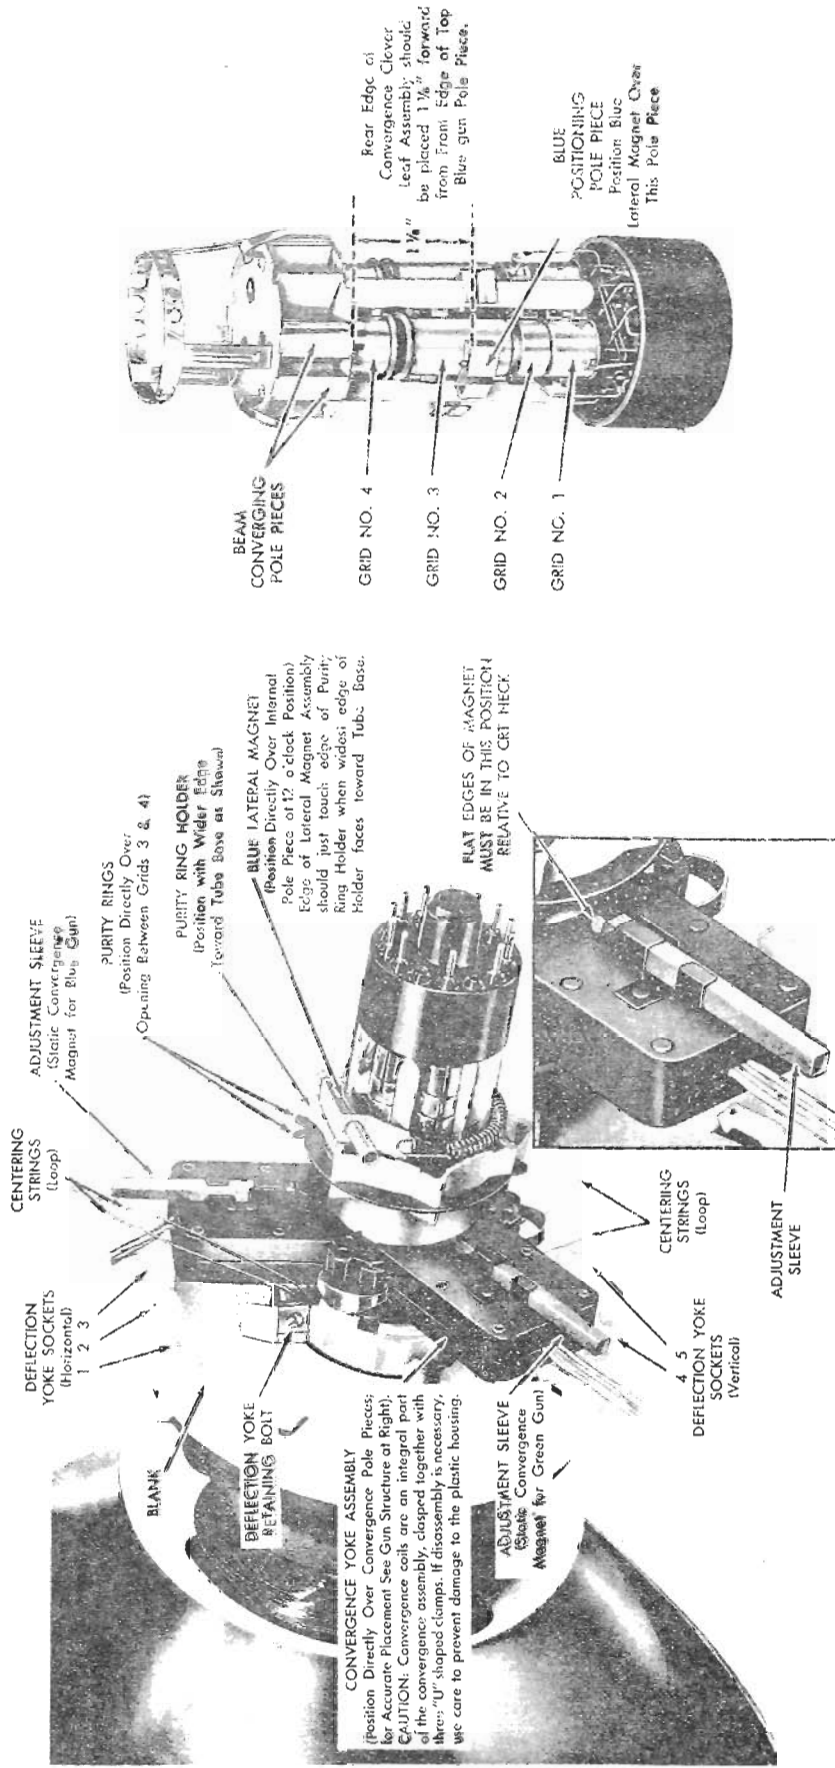

Figure 3A--Location of Components on Neck of Round Picture Tube.
If the horizontal scanning lines are tilted, the deflection yoke must be repositioned. Loosen the yoke retaining hardware, grasp the yoke and adjust for correct position. See Figures 3A and 3B. When positioning the yoke, do not slide it along the neck of the tube or purity will be affected. The horizontal scanning lines should be parallel to the picture tube mask.
To center the picture, apply pattern to receiver of known centering or reduce line voltage (using variac) until raster sides, top and bottom are just visible. Alternately pull the string on either side of the loop straight back until pattern or raster is centered. When pulling the loops to center the picture, be sure the convergence yoke components are not shifted from their correct position. If variac was used, return line voltage to normal. After centering is accomplished, re-check for correct positioning of the convergence yoke assembly to be sure the coil sections are properly fastened and the assembly correctly positioned. Otherwise, good convergence may be extremely difficult to achieve or the entire procedure may have to be repeated when the coils are repositioned into place. See Figure 3A.
3. Alternately adjust vertical and horizontal centering controls until pattern is centered. See Figure 3A or 26 for location of centering controls. Temporarily remove generator signal.